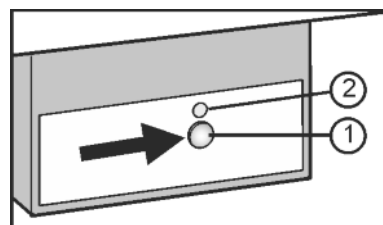

Fig. 7
- Press On/Off button Fig. 7 (1) so that the LED Fig. 7 (2) lights up.